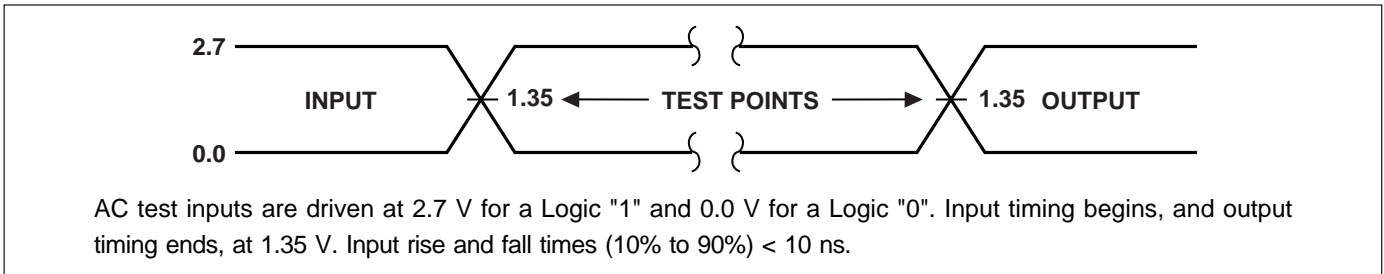
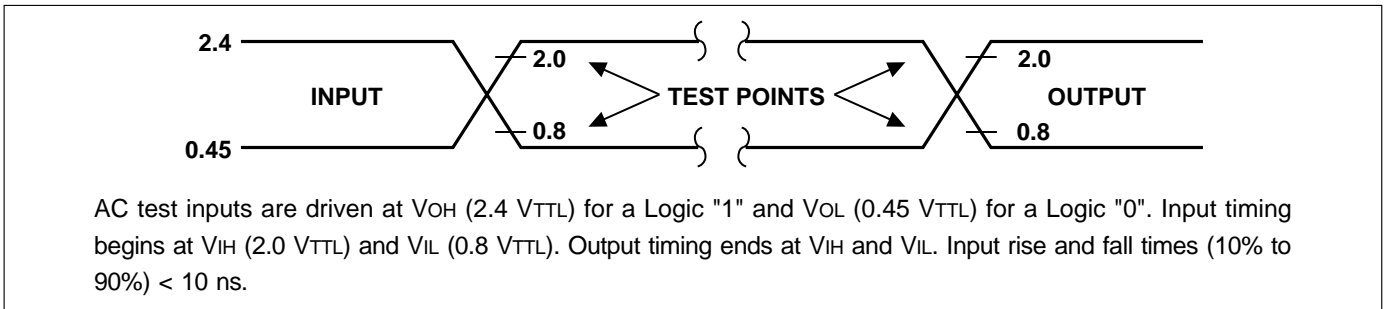

Fig. 9 Transient Input/Output Reference Waveform for V_{CC} = 2.7 to 3.0 V
Fig. 11 Transient Input/Output Reference Waveform for V_{CC} = 5.0±0.5 V (Standard Testing Configuration)
1. See AC Input/Output Reference Waveform (Fig. 9 through Fig. 11) for maximum allowable input slew rate.